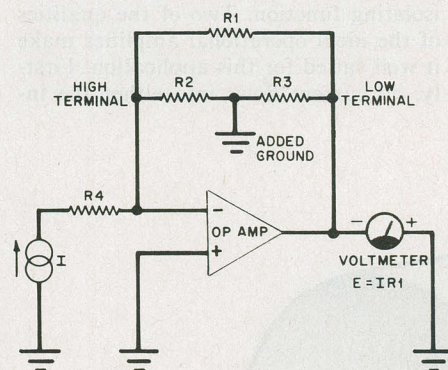

Fig. 4. An inverting op-amp circuit that can be used for in-circuit resistance measurements.
**The Inverting Amplifier** shown in Fig. 4 is another op-amp circuit that can be used for in-circuit resistance meas-
urement. One well-known property of the inverting amplifier is that its voltage gain equals the ratio of the feedback resistance to the input resistance. In the in-circuit measurement application shown in Fig. 4, the component whose resistance is to be determined ( $R1$ ) functions as the feedback resistance. Resistor  $R4$  behaves as the stage's input resistance. If the input resistance is a stable, known value, the op amp's output voltage is proportional to the feedback resistance.
Fig. 4. The thermistor is part of a bridge that drives comparator IC1A. When this comparator turns on (detected temperature below preset), it activates a LED and an audible alarm.
**Circuit Operation.** The circuit is shown in Fig. 4. At a temperature of 32°F (0°C), the thermistor called for in the Parts List has a resistance of approximately 2.8 k $\Omega$ . Thus, at 32°F, pin 3 of op amp IC1A is just under 6.8 volts (assuming the vehicle's electrical system is delivering about 13.6 volts when the generator is operating).